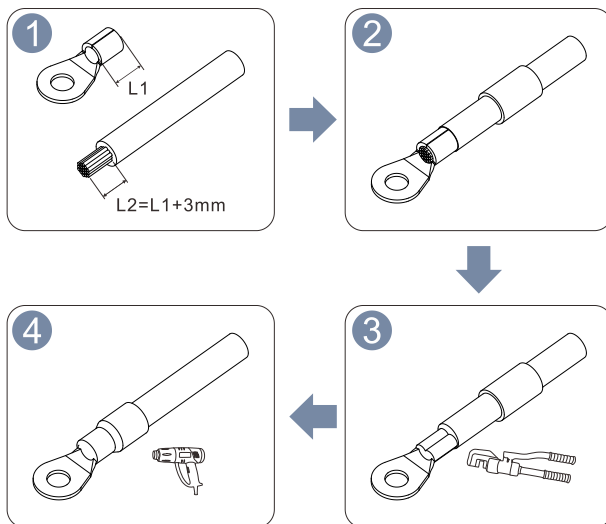

Figure. 4-8 Diagram of Crimping OT terminals
Step 2: As shown in Figure 4-8, install a protection ground cable at the ground terminal on the right of the BDU and connect it to the external ground protection point.